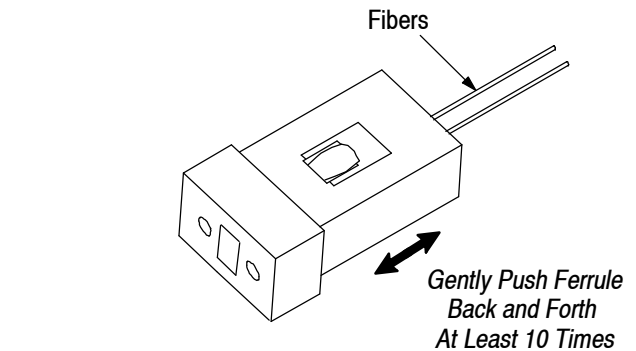

Figure 19
3. In order to coat the fibers with epoxy, use a pistoning motion, gently push the ferrule back and forth at least 10 times. See Figure 19.